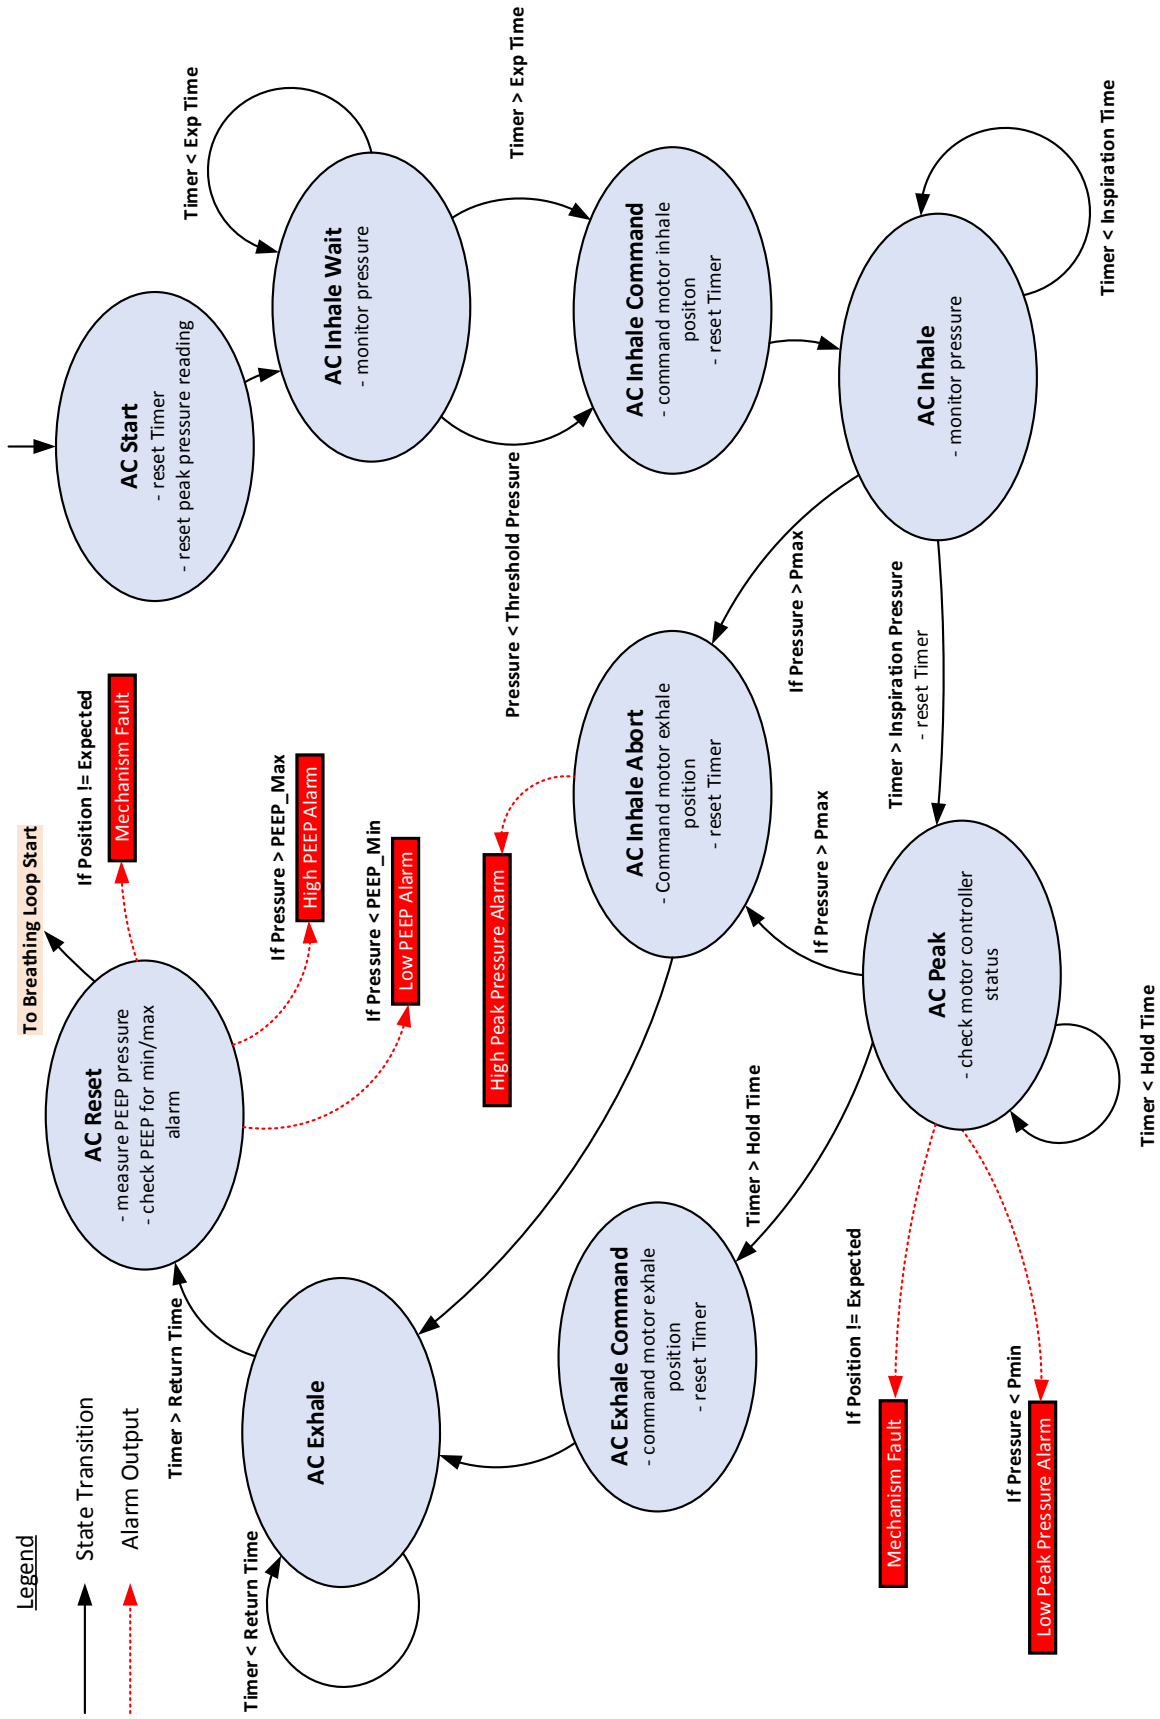

Figure 4: Assist Control Mode State Flow Diagram
3. The Assist control Mode state flow diagram is shown in Fig. 4.